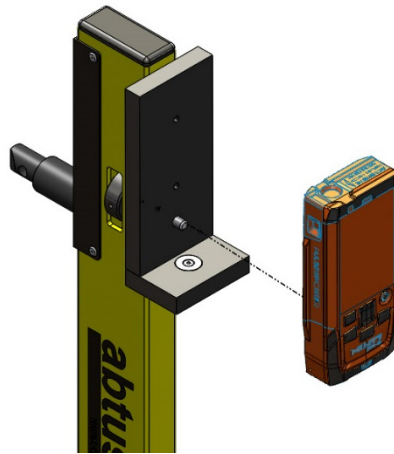

Figure 3
2. Place the laser unit into the holder at the top of the vertical beam and fix in place using the screw provided (See Figure 3).